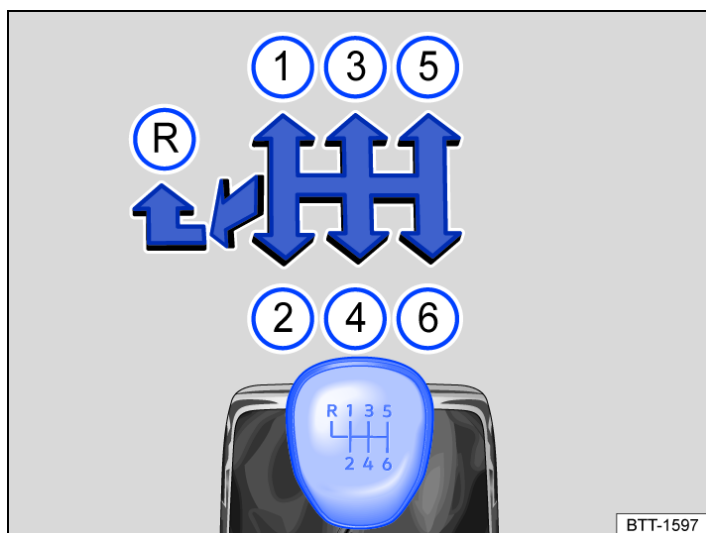

Fig. 1 Gear shift pattern of a 6-speed manual gearbox.
The positions of the individual gears are displayed on the gear lever → Fig. 1.
- Push the gear lever completely to the left and then forwards into the reverse gear position → Fig. 1.